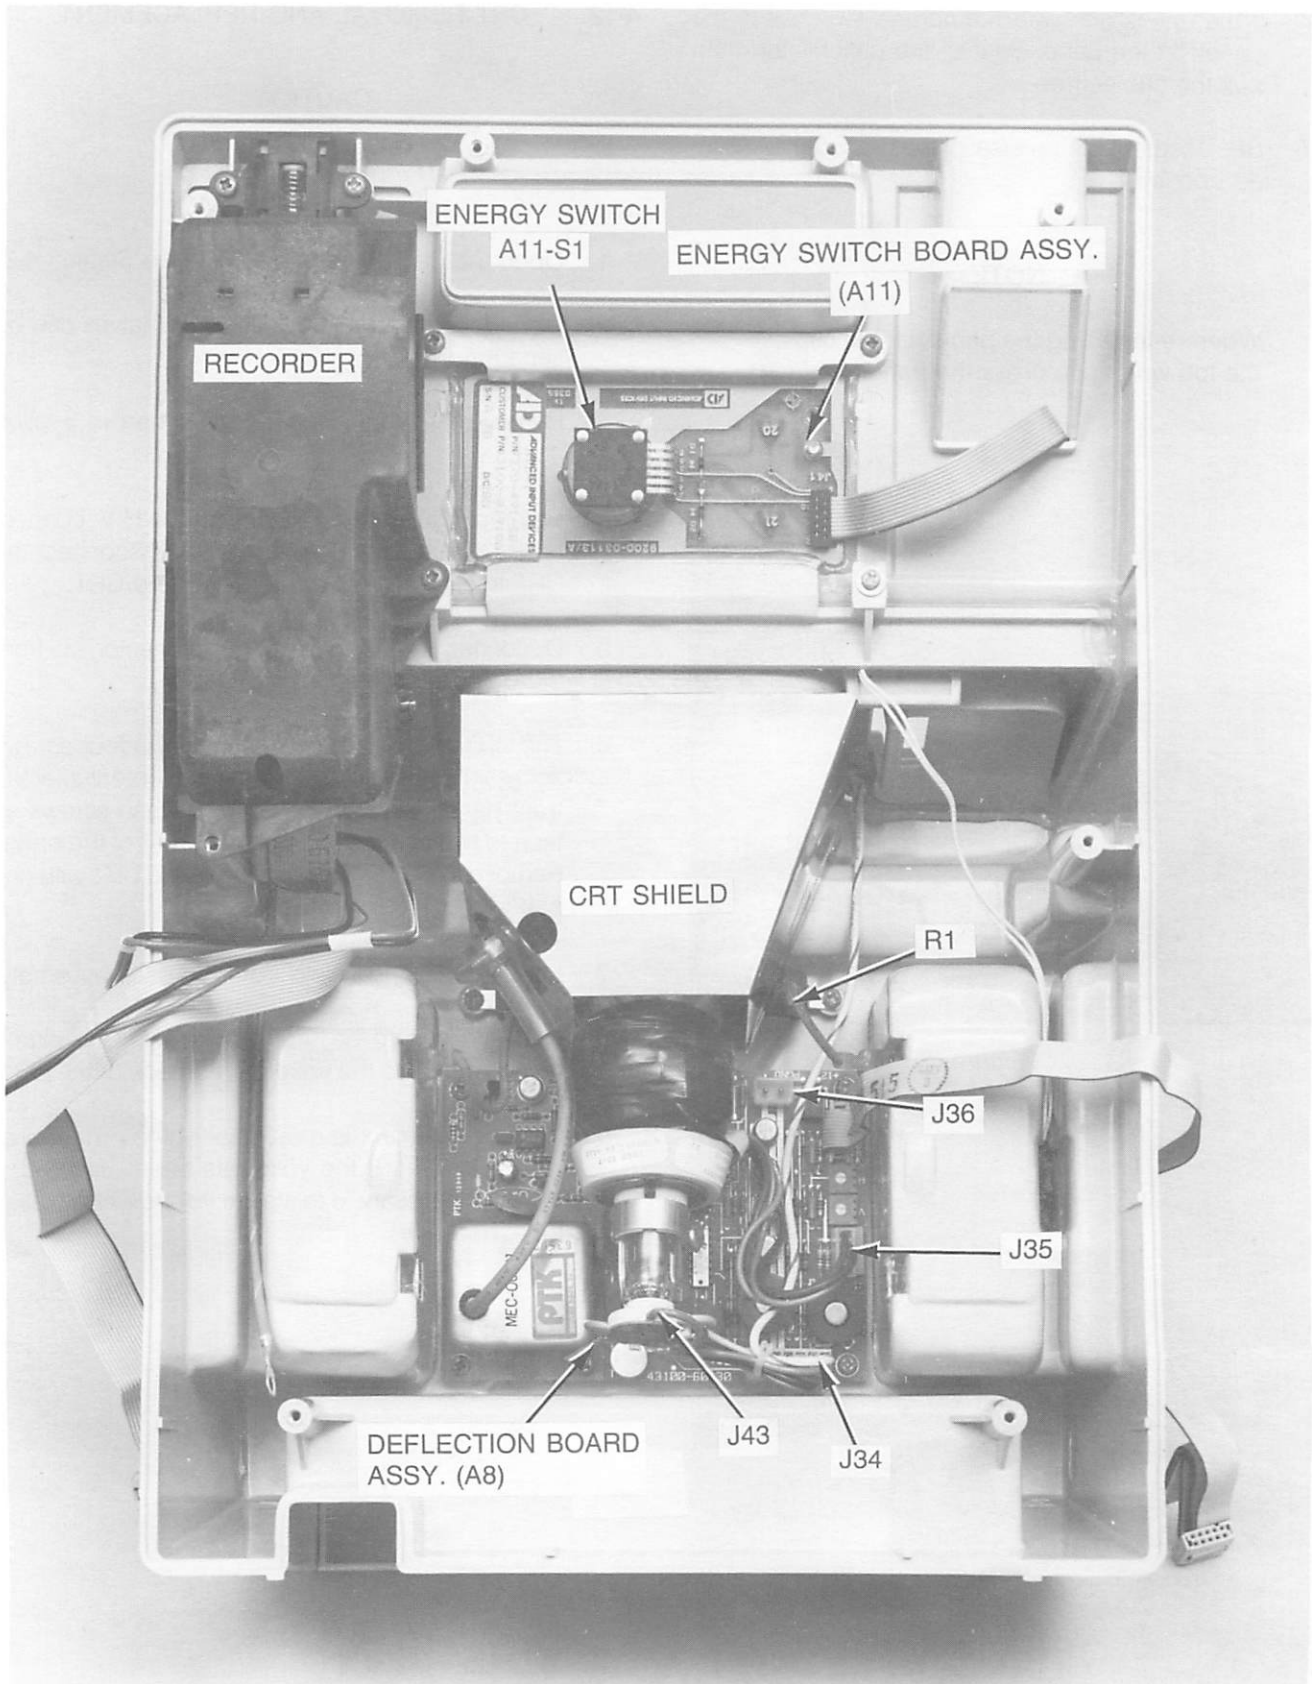

Figure 4-10.
4. Refer to Figure 4-10. Disconnect the H.V. connector P37 from the side of the CRT. Disconnect the CRT socket J43 from the rear of the CRT.
1. The deflection board can be removed without removing the CRT. Refer to Figure 4-10.